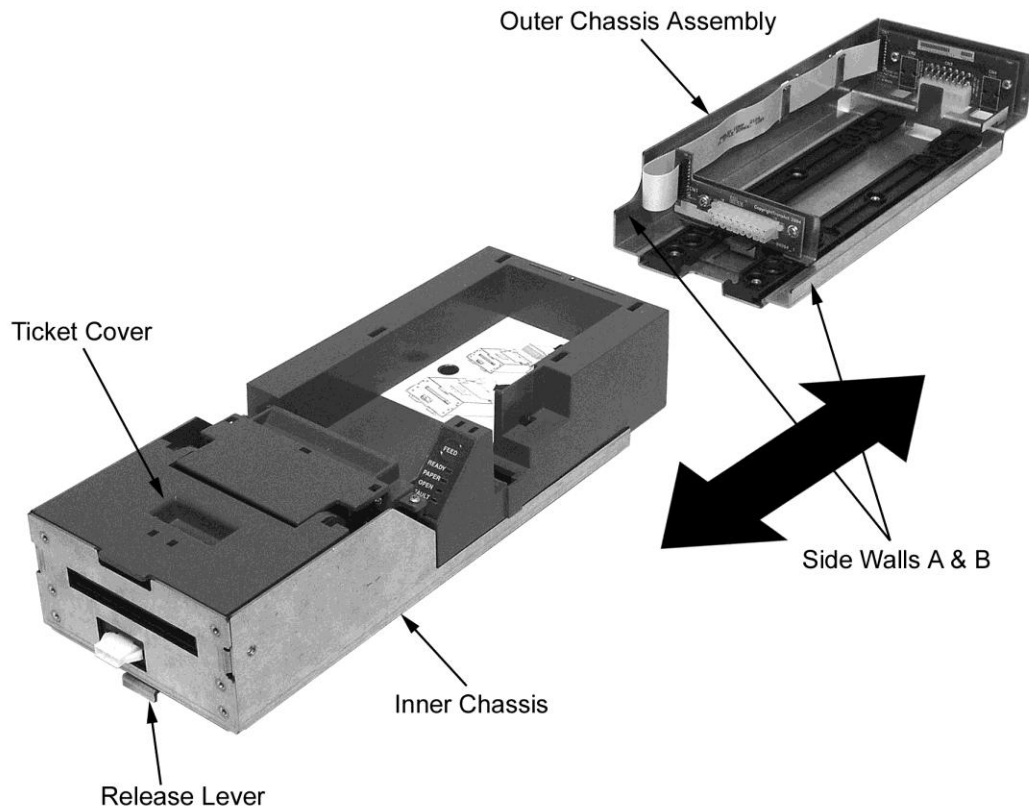

Figure 17. Racking/Unracking the Inner Chassis
- Align the base of the Inner Chassis with the outer walls of the Outer Chassis, seating it within side walls A and B as shown in Figure 17.